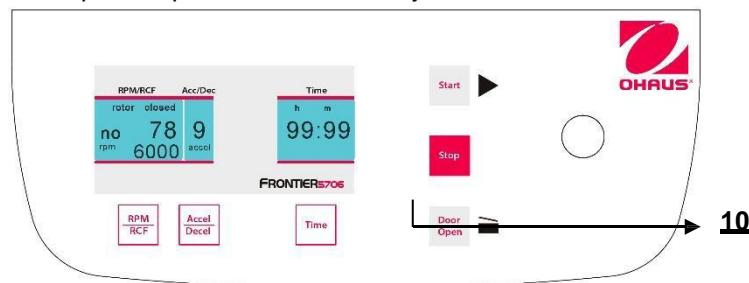

Figure. 23
The run can be interrupted at any time by pressing the "Stop" key (10) (See figure 23). After pressing the key the centrifuge decelerates with the respective pre-selected intensity until it reaches standstill.